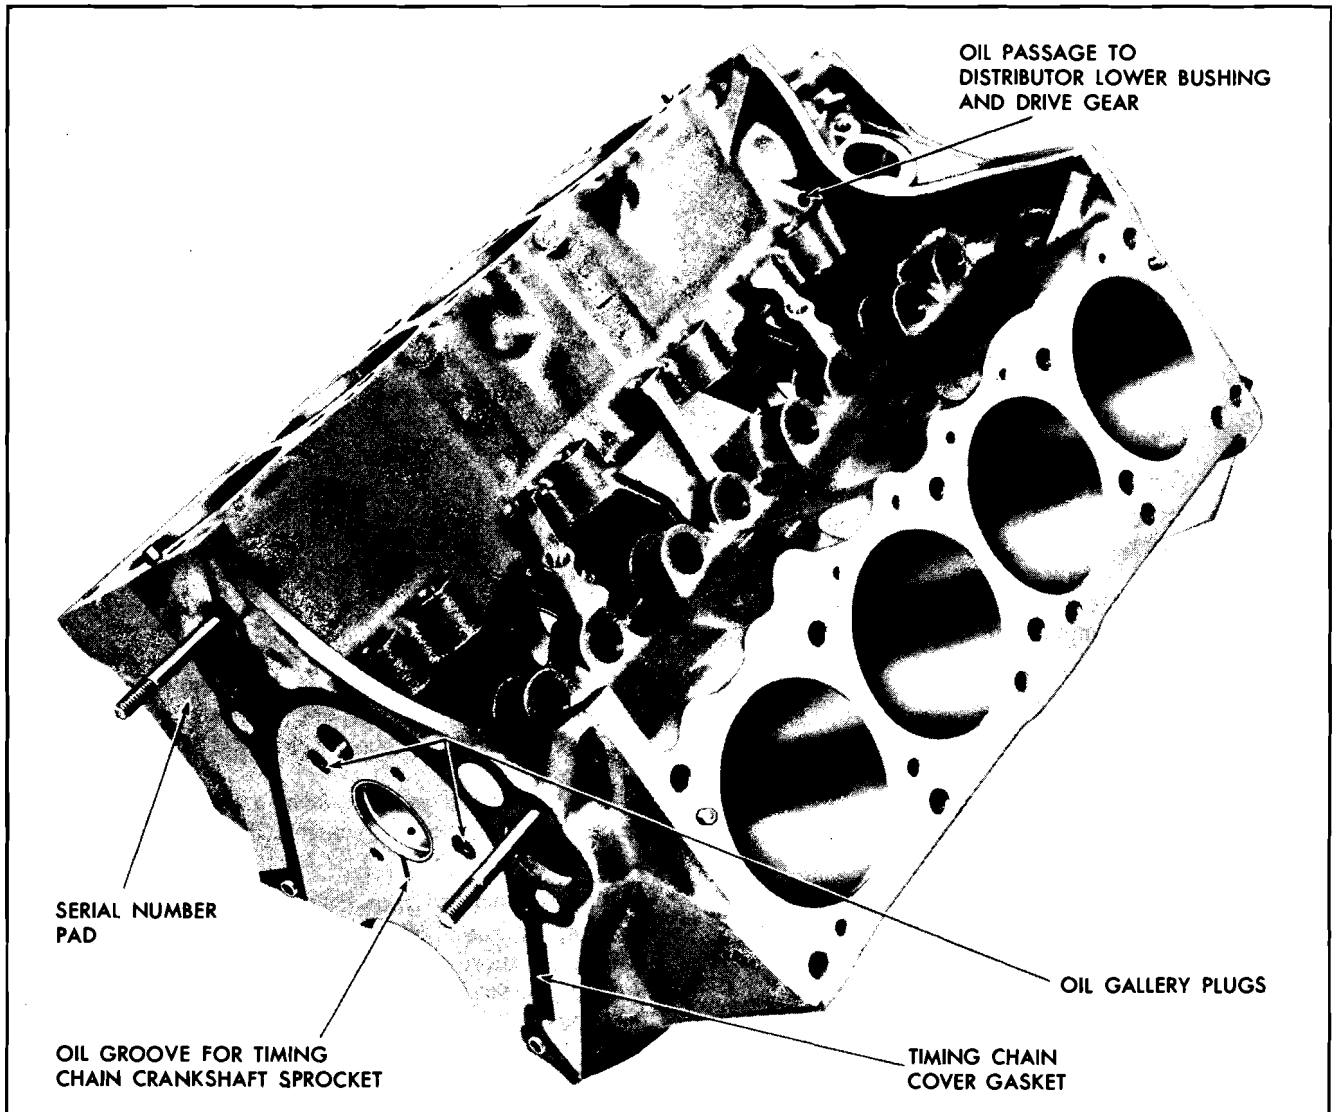

Fig. 6-128 Cylinder Block - View From Left Front
NOTE: Oil circulation diagram is provided in the engine lubrication section. Figs. 6-128, 6-129 and 6-130 also show the various location of water jacket core hole plugs.
5. With cylinder block right side up, check oil passages to left bank lifter bosses. Use rubber hose to blow smoke in oil filter outlet while observing for smoke passing out oil passages from left main oil gallery to lifter bosses (Fig. 6-128).